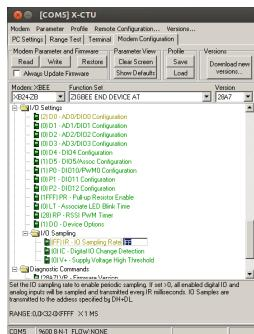

Figure 14.4: Configured end device. D0 set to 2 and IR set to 1FF.
Let's prepare the new configuration. Set the PAN ID to your group ID. Set D0 to analog (2). Set the sampling rate to 255 ms (IR=1FF). We write the changes to the XBee. The configuration should look as shown in Fig. 14.4